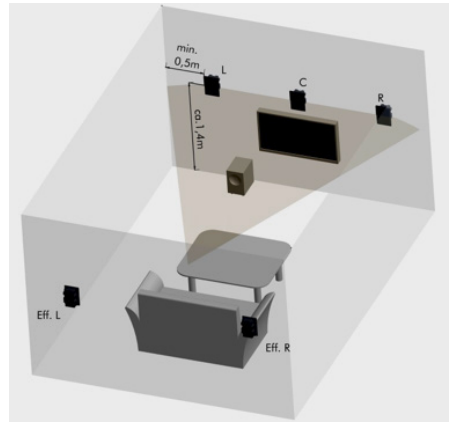

fig. 2
- 4) You must decide whether you want to create a surround-sound or a stereo configuration. For a surround-sound installation (fig. 2), you need at least five loudspeakers (main speaker left “L”, main speaker right “R”, center loudspeaker “C”, rear effect loudspeaker left “Eff. L” and rear effect loudspeaker right “Eff. R”). The two figures below show a typical stereo installation on the left and a typical surround-sound installation on the right. You should adhere more or less to the dimensions recommended in the figures.